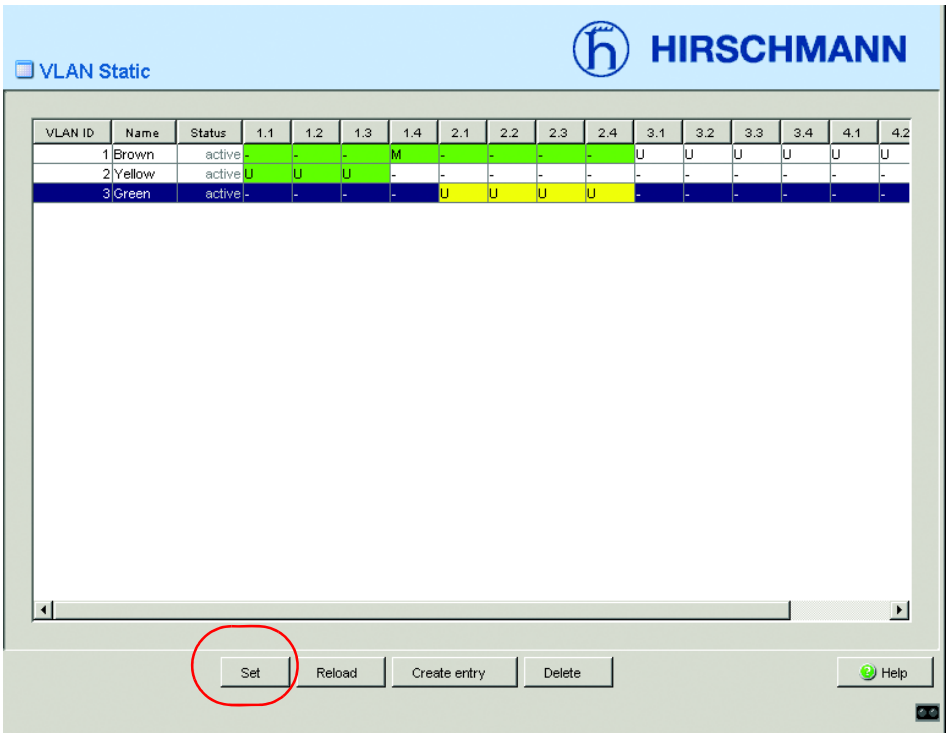

Fig. 45: Saving the VLAN configuration
**Note:** Save the VLAN configuration to non-volatile memory (see fig. 45).